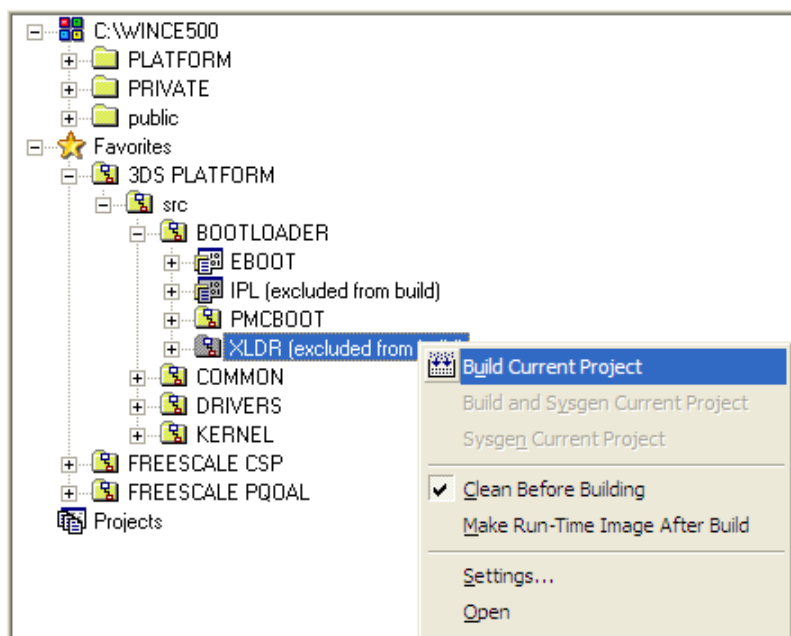

Figure 4-7 Building an XLDR Image
4. Right-click on the XLDR folder again and select **Build Current Project**, as shown in Figure 4-7). The XLDR binary image will be created in the workspace release directory.